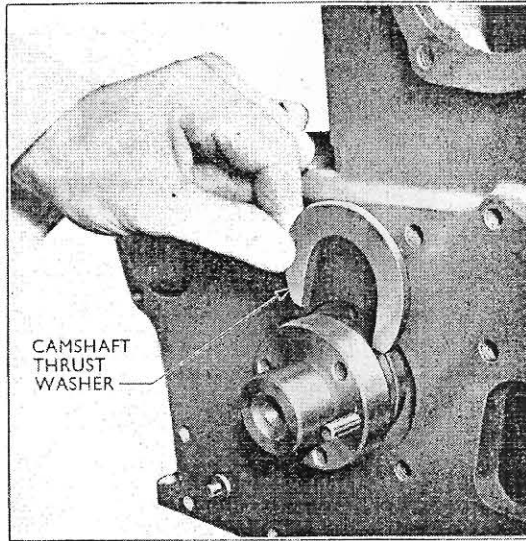

Fig. 14.
24. Pull the camshaft forward and extract the thrust washer (see Fig. 14).